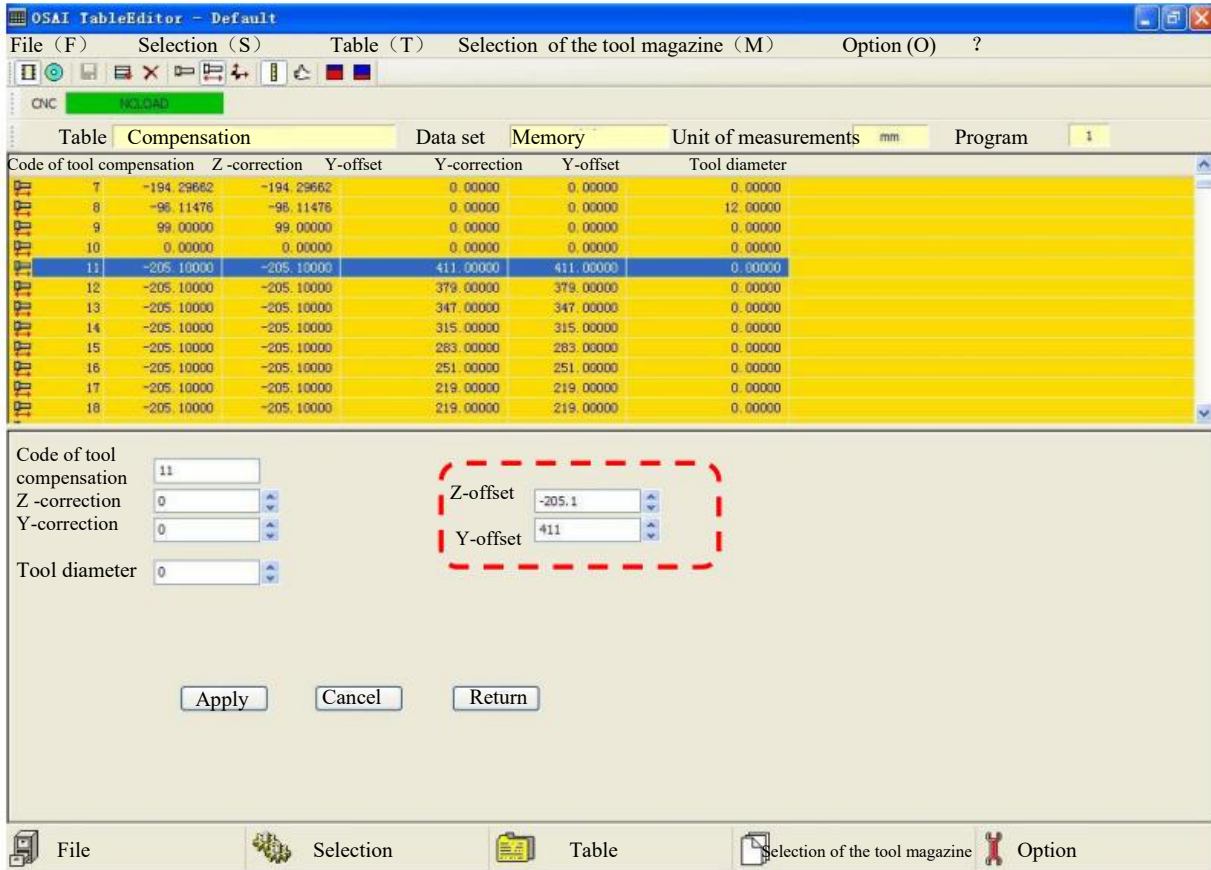

Fig. 6.29
- 3) Tool 11-22 are vertical drilling tools of gang drill. For them, correct the "Y-offset " according to the Y-direction deviation when drilling and correct the "Z-offset " according to the depth deviation when drilling ,then save the data, as shown in Fig.6.29.